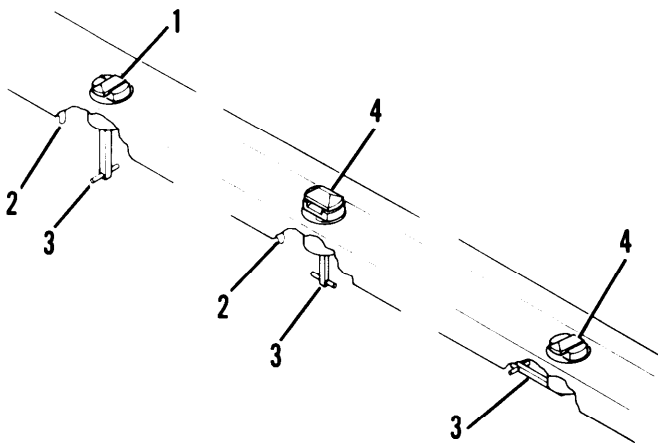

Figure 2-18. Twistlock Operation
- (1) Release handle (3, fig. 2-18) from latch (2). Push lock assembly (1) upward.
- (2) Turn handle (3) clockwise 90° to rotate twistlock bayonet (4) into loading position.
- (3) Load cargo container on the semitrailer.
- (4) Check the mating of twistlock (4) into the container fitting.
- (5) Rotate handle (3) clockwise 90° to rotate twistlock (4) into locked position.
- (6) Secure the handle (3) with latch (2).